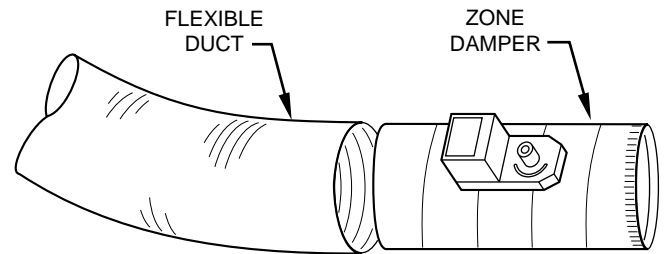

Fig 8—Round Flexible Ductwork A95132
1. Slip 1 end of flexible ductwork over 1 end of zone damper. (See Fig. 8.)